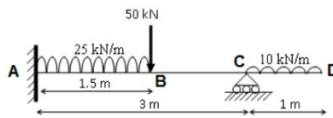

Figure: 4
5. Analyse and draw the shear force diagram for a beam supported and loaded as shown in Figure 4. [15]